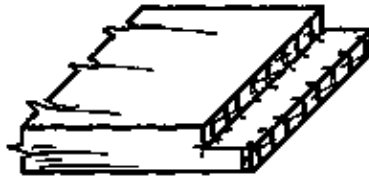

Fig. 6
– Clean up the inside faces with a smoothing plane (Fig. 6).